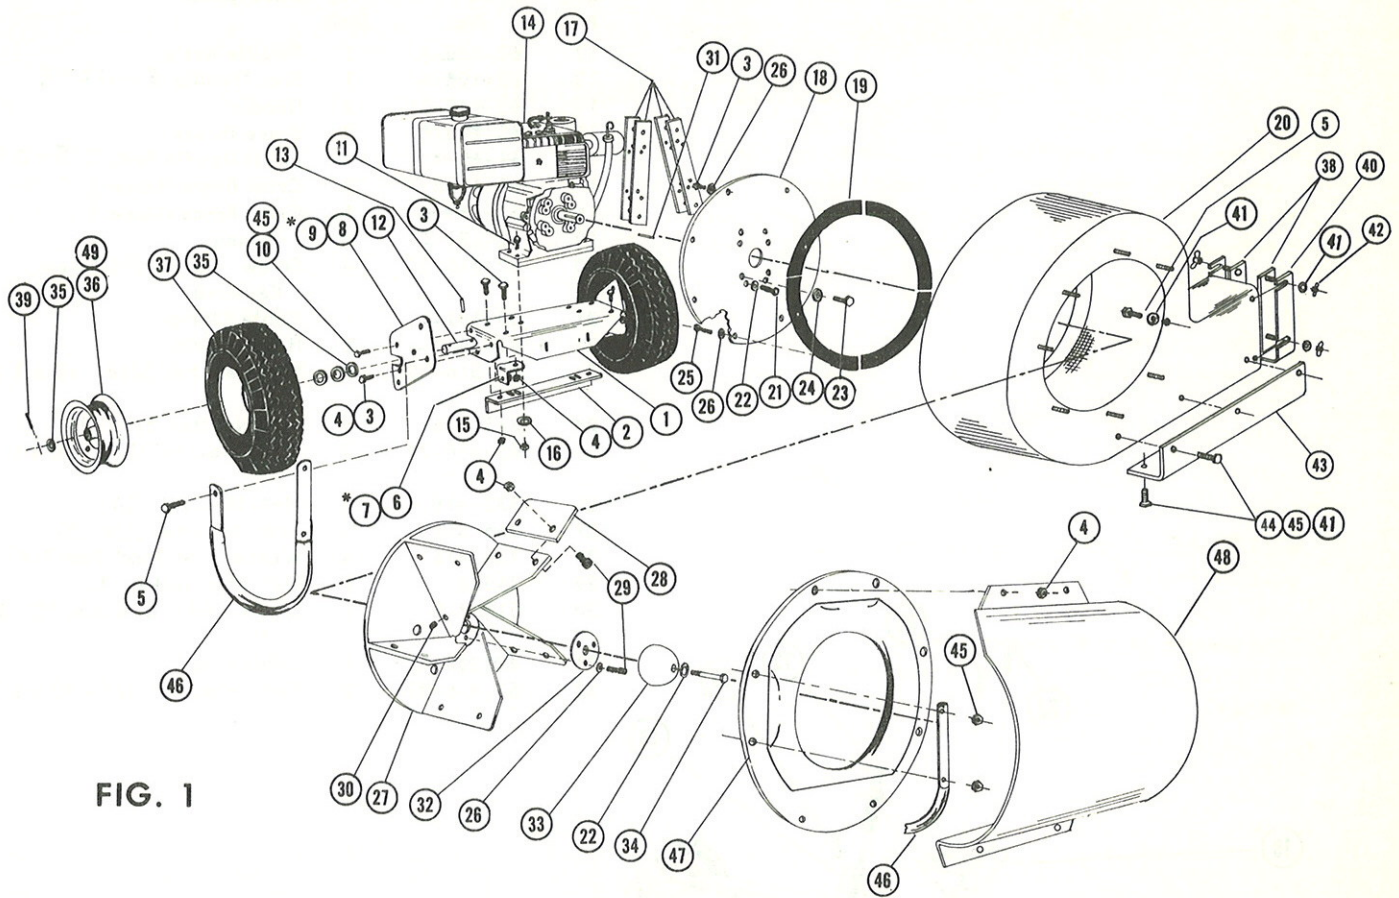
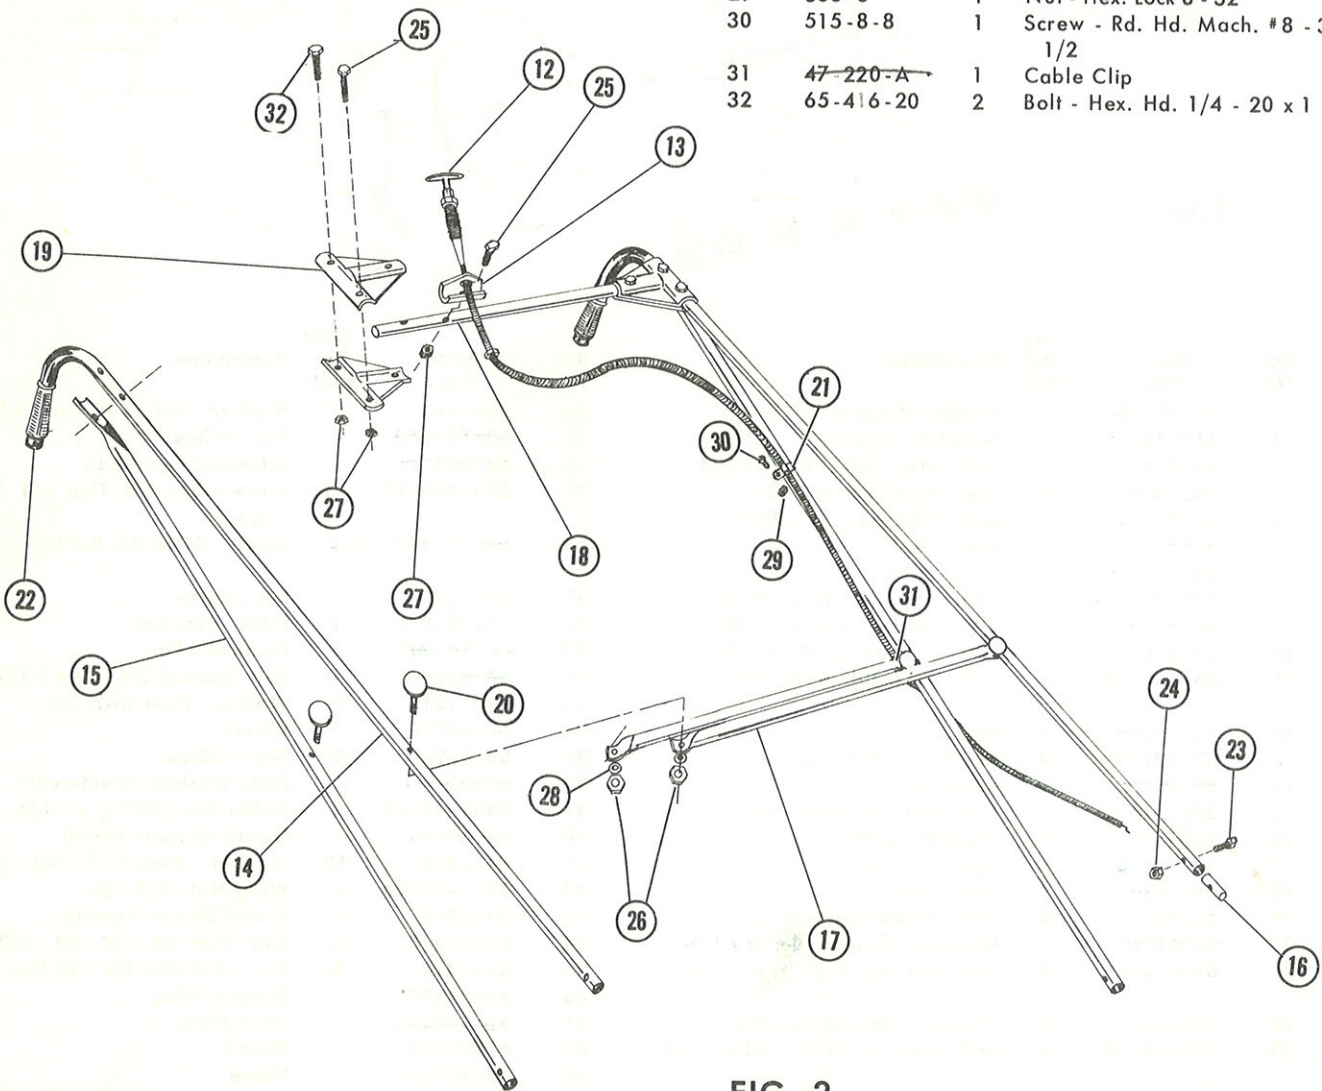

FIG. 1
FIG. 2
1. Remove handle componets from other carton, Fig. 2. Assemble all handle componets (Except Item 16) loosely as shown in Fig. 2. (Hand Tighten Nuts) Connect handle tubes Item 14 to top most hole in Items 8 and 9, Fig. 1. Connect braces Item 15 in bottom hole in Items 8 and 9, Fig. 1. Be sure to place Item 16 in the ends of handle tubes Item 14 and braces Item 15 before inserting screw thru Items 8 and 9, Fig. 1 to prevent collapsing tubes when nut is tightened. Now tighten all nuts alternating from side to side and top to bottom of handle assembly. The handle should now be a rigid part of the power unit.
2. Uncoil throttle assembly Item 12, Fig. 2 from around engine and fasten cable in cable clamps Items 21 and 31. Bolt throttle bracket Item 13 to cross brace Item 18. Care should be taken not to kink, or bend cable sharply.